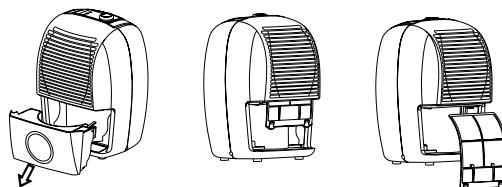

Fig. 7.
- Pull the water bucket out as shown in Fig.4. Grasp the lower side of the filter and pull it downward, see Fig.7.